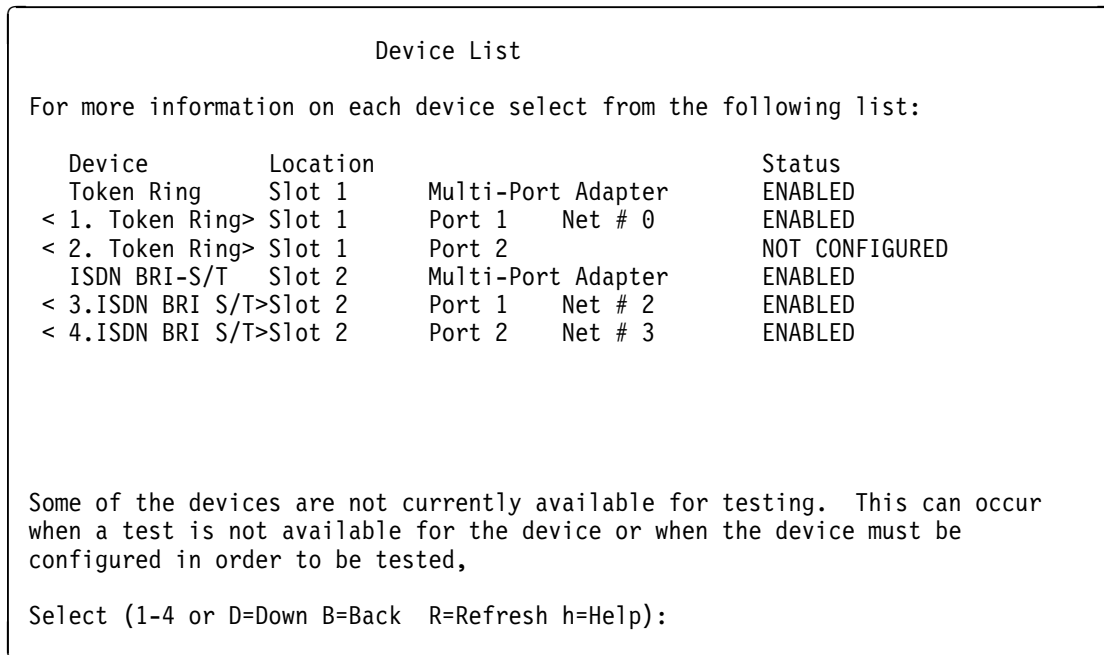

Figure 6-2. Sample of Device List Panel Showing Interfaces
3. Select **<1. The Device List >** to view a list of installed devices. The Device List panel (similar to the one in Figure 6-2 on page 6-3) appears.